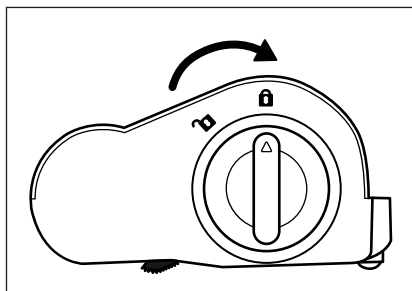

Fig. 29
- 5) Insert the rotary brush **20** into the floor brush **21** and turn the rotary brush release **19** in the direction of the symbol **!** (close) (see Fig. 29).